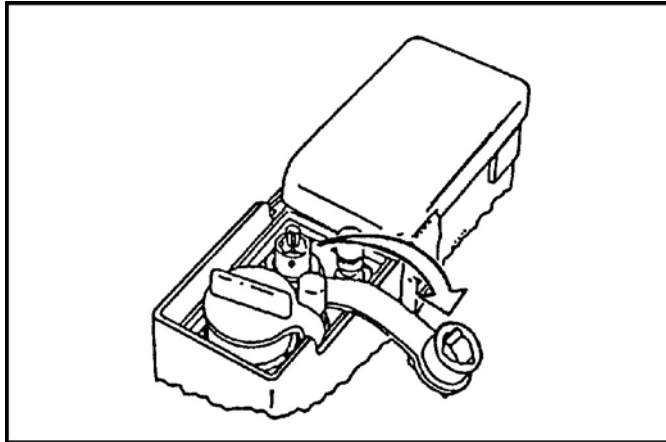

Figure 9. MBC power connector.
- b. Remove the dust cover from the MBC's power connector (Figure 9). This is the smaller of the two connectors on the bottom of the MBC.